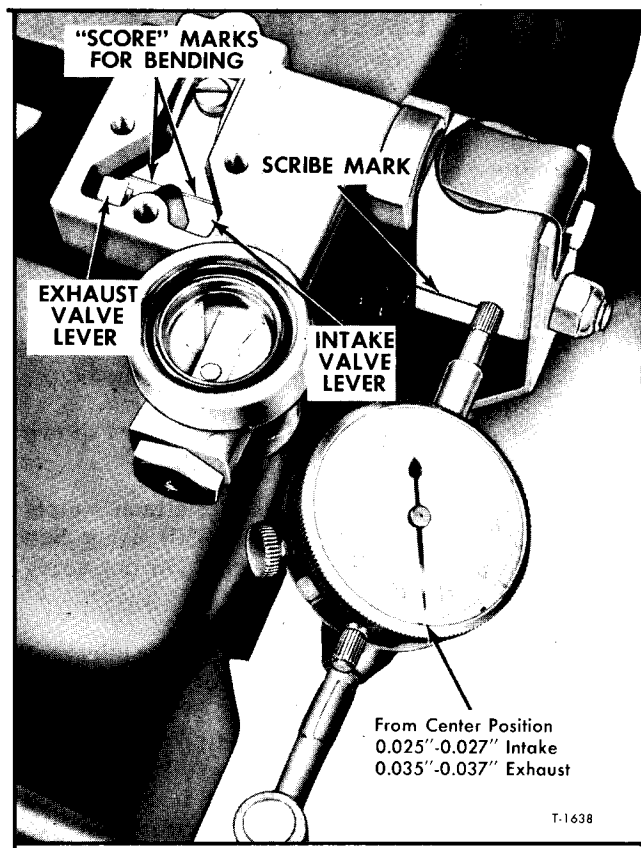

Figure 53—Method of Adjusting Air Valve Lever Gaps
5. Place control valve assembly in vise as shown in Figure 53.
4. Starting at true center position, slowly move lever to where air intake valve just begins to open. Listen for escaping air. Note reading on dial at this point. Reading should be 0.025" to 0.027" from lever center position. Bend lever to correct setting. Refer to Figure 53.
5. Return overtravel lever to center position. Slowly move lever to exhaust side and at same time note the vacuum gauge reading. When vacuum just begins to fall off, the exhaust valve has opened. Valve should open when overtravel lever is moved 0.035" to 0.037" from center position. On both front and rear control valves, bend lever to correct setting. Refer to Figure 53.
b. Bend lever to correct setting. Refer to Figure 53.